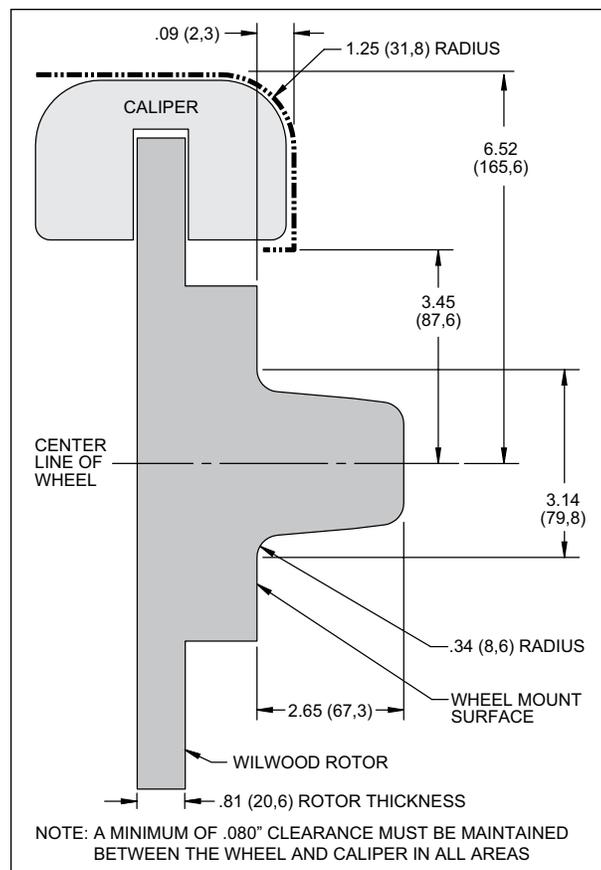

Figure 2. Wheel Clearance Diagram
- Review the Wheel Clearance Diagram (Figure 2, page 3) to verify that there is adequate clearance with the wheels you will be using with the installation.